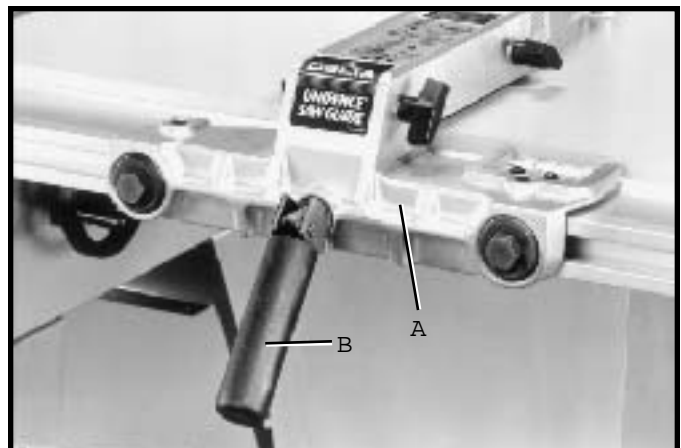

Fig. 68
4 Lock fence body (A) to the guide rail by pushing down on handle (B) as shown in Fig. 68.